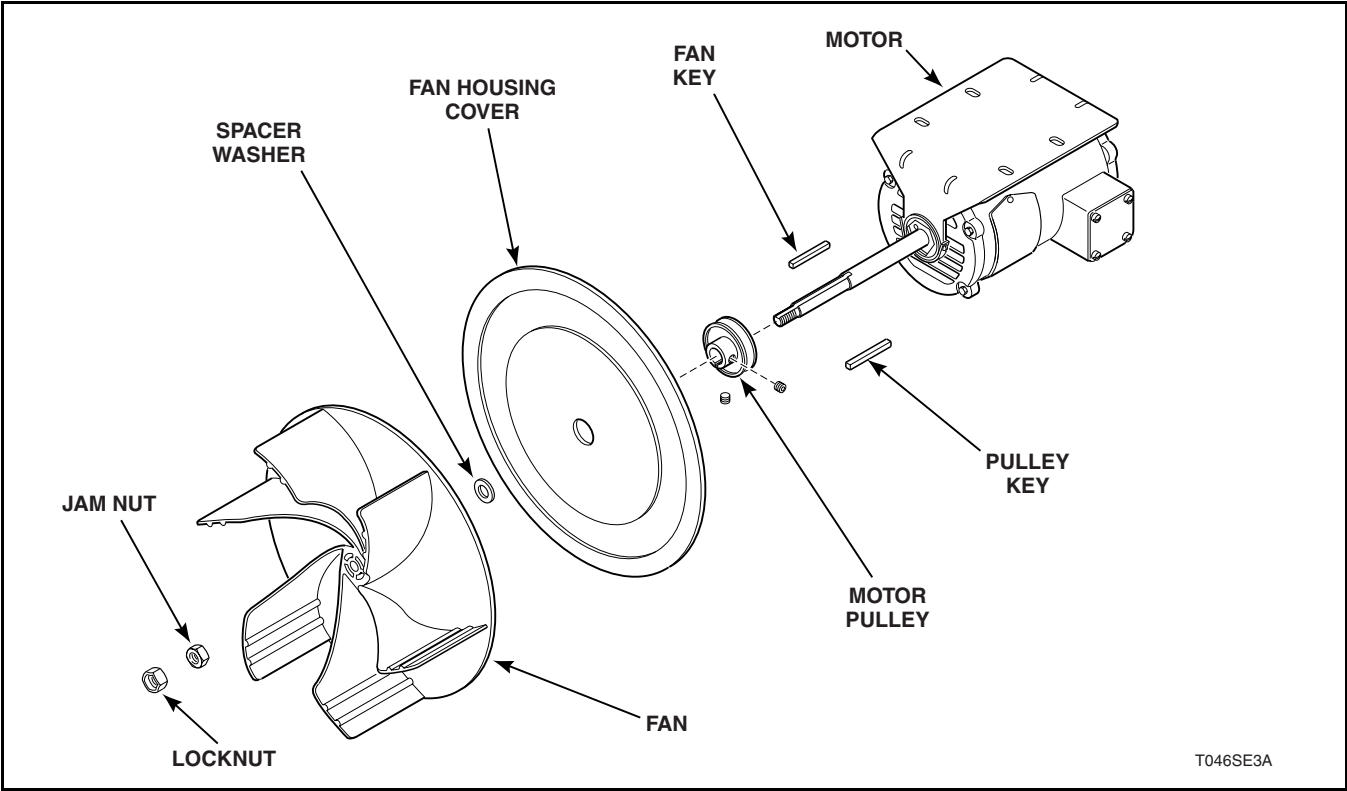

Figure 47
- m. Remove locknut and jam nut holding fan on motor shaft. Refer to *Figure 47*. Pull fan off motor shaft.
- n. Remove spacer washer from motor shaft. Refer to *Figure 47*.
- o. Loosen two setscrews holding motor pulley to motor shaft. Refer to *Figure 47*. Remove motor pulley.